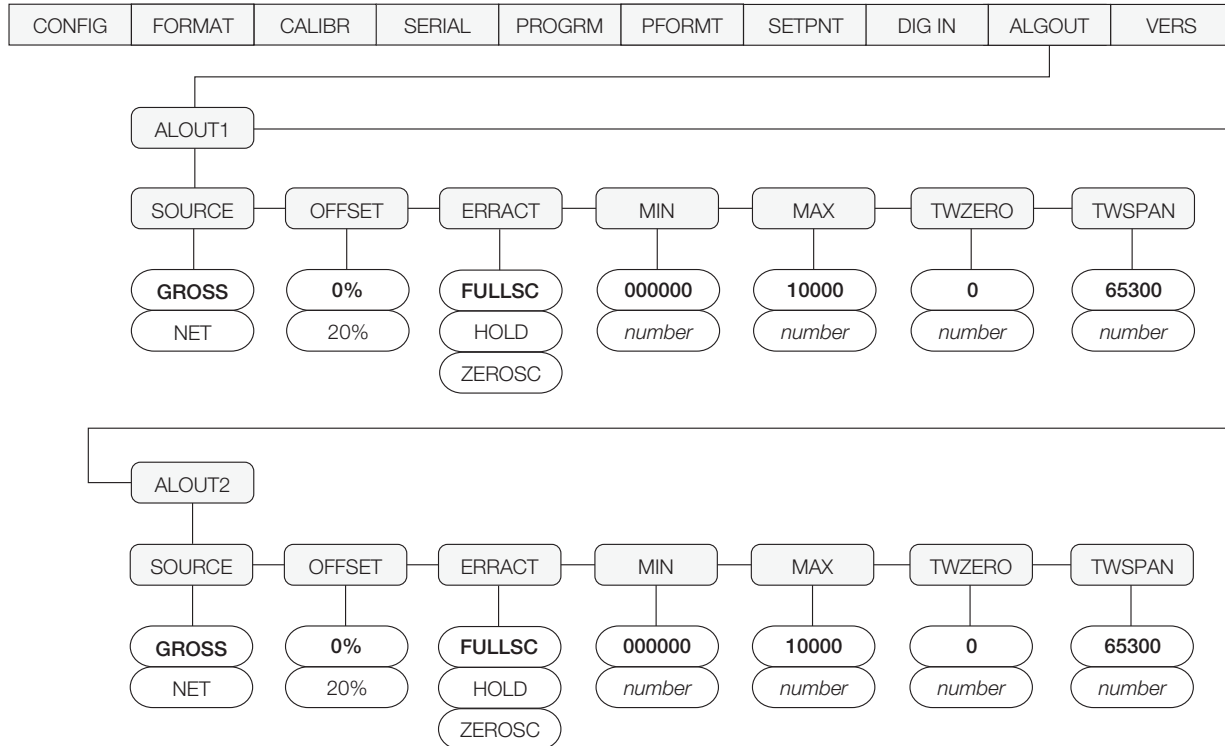

Figure 8-3. Analog Output Menu
- Enter setup mode and go to the ALGOUT menu (see Figure 8-3). See Table 9-7 on page 72 for information on switch settings.